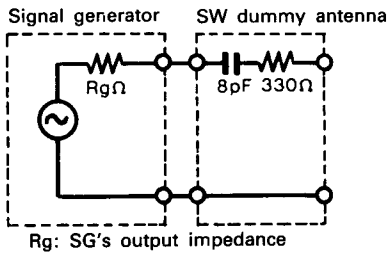

Fig.11
2. SW dummy antenna shows Fig. 11.